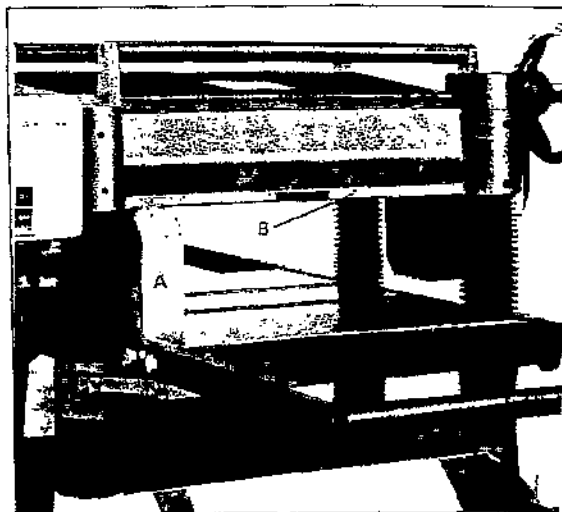

Fig. 23
2. Place the gage block (A) Fig. 23 on the working table directly under front edge of head casting (B). Make slight contact by gently raising table as shown in Fig. 23.